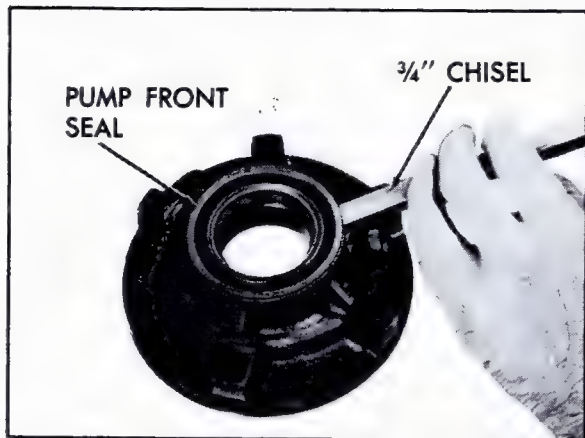

Fig. 7-209 Removing Pump Front Seal
i. Inspect front seal for damage. If replacement of front seal is necessary, use a standard 3/4" cold chisel and pry front seal from pump body, Fig. 7-209.